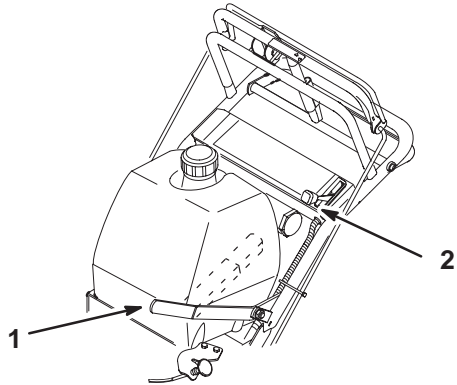

Figure 18
1. Move the throttle lever to slow (Fig. 18).
2. To stop the engine pull the throttle all the way back, to stop (Fig. 18).